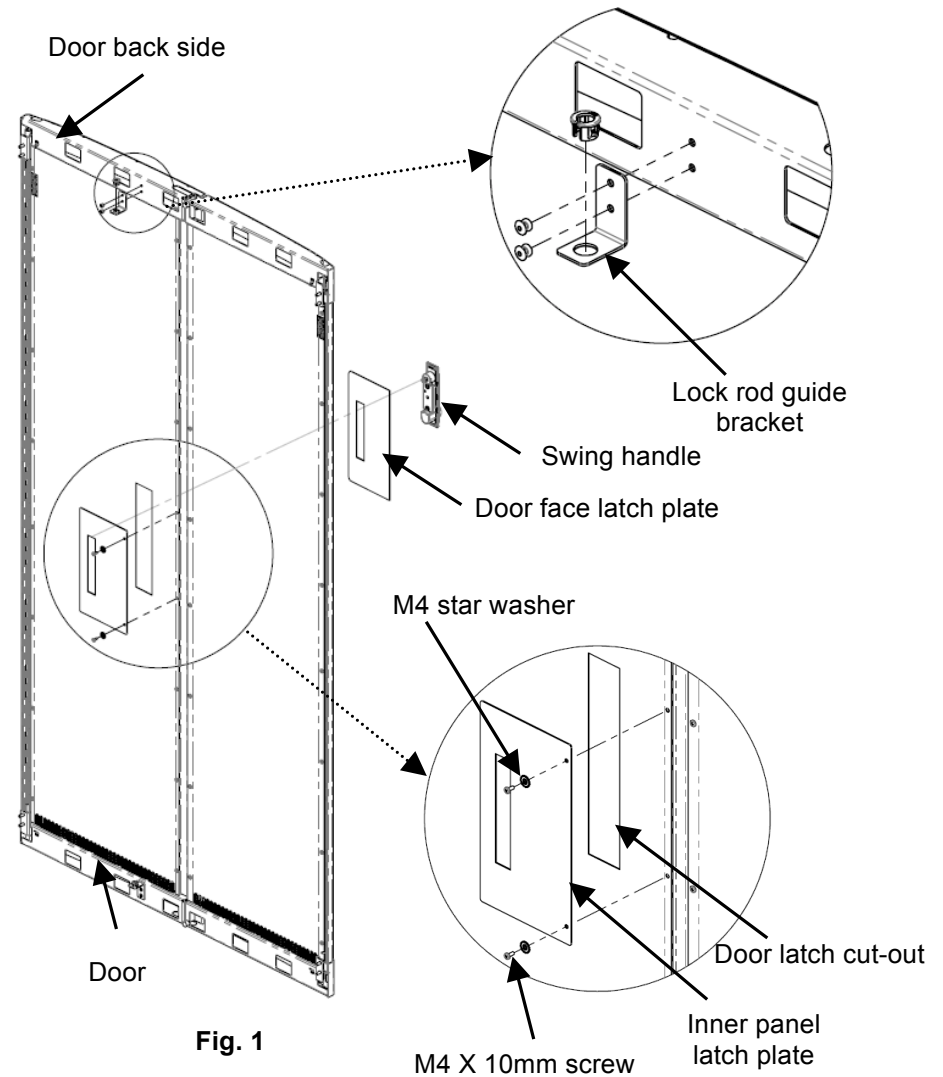

Fig. 1
1. Install lock rod guides in the top and bottom door laterals. Do not insert the lock rods yet (Fig. 1).
2. Position the inner panel latch plate inside the door over the latch cut-out and fasten with two M4X10mm screws with a M4 star washer under each screw head. The star washer provides an electrical bonding point (Fig. 1).
3. Place the swing handle into the door face latch plate with the key hole down (Fig. 1)